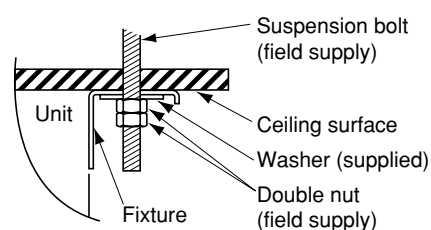
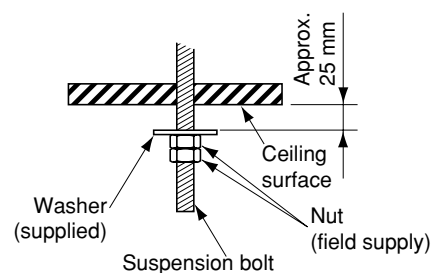

Fig. 3-89a
Fig. 3-89c
- (6) Carry out the preparation for suspending the indoor unit. The suspension method varies depending on whether there is a suspended ceiling or not. (Figs. 3-89a and 3-89b)
- (7) Suspend the indoor unit as follows:
- a) Mount 1 washer and 2 hexagonal nuts on each suspension bolt as shown in Fig. 3-89c.